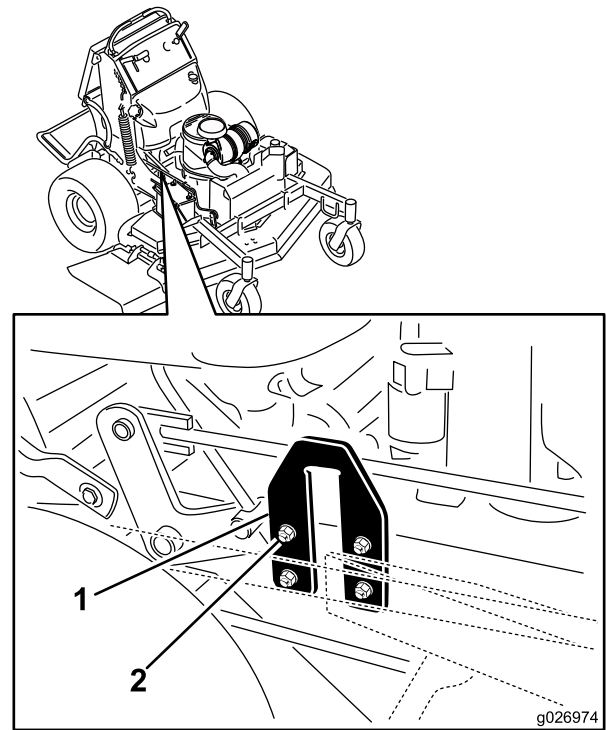

Figure 86
2. Locate the U-plates on the side of the engine deck (Figure 86).
3. Loosen the U-plate on 1 side, and adjust it up or down to make the difference between measurements **B** and **C** no more than a 6 mm (1/4 inch) as shown in Figure 86.